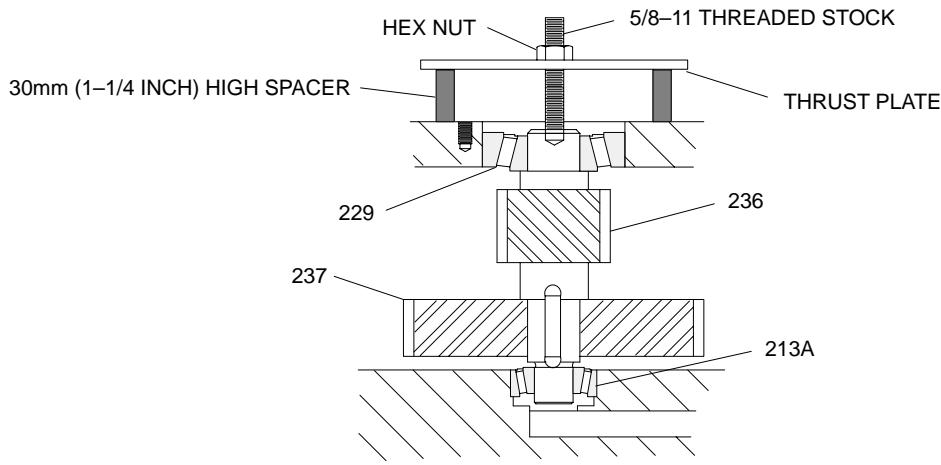

Figure 3
- a . Remove bearing retainer (239) and the shim set (241), being careful not to damage the shim set.
- b . Install a piece of threaded stock into the $5/8\text{--}11$ tapped hole in the end of the low speed pinion shaft (236). Then install a 30mm (1 $\frac{1}{4}$ inch) high spacer, thrust plate and hex nut as shown in Figure 3.
- d . Move the low speed pinion shaft (236) away from the high speed pinion and shaft (211).
- e . Remove the high speed pinion shaft coupling half (234) and the flexible element (235) (WOODS SURE-FLEX COUPLINGS ONLY) from the high speed pinion shaft (211).
- f . Remove the high speed bearing retainer (215) and the shim set (216), being careful not to damage the shim set.
- g . The high speed pinion shaft (211) and bearings (213 & 213) can now be lifted out of the gear housing. Inspect the pinion shaft and replace if necessary.
- h . Inspect the high speed bearings (212 & 213) and replace if necessary. If the bearings or the pinion shaft are replaced, a new shim set (216) will be required. If the bearings must be replaced, the outer race of the lower bearing can be removed from its bore with a small puller.